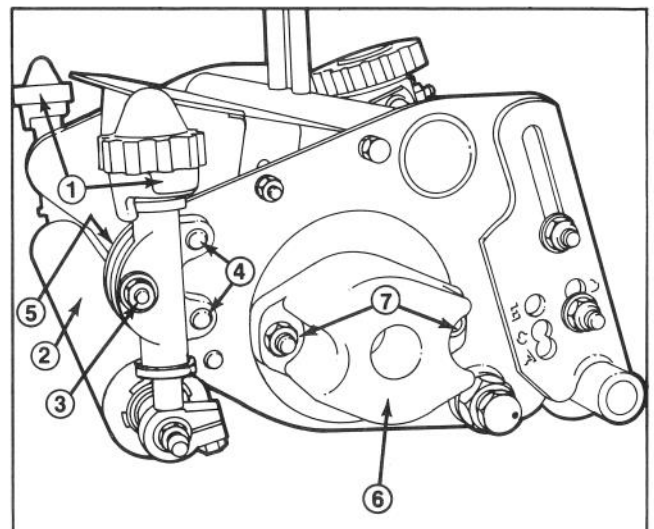
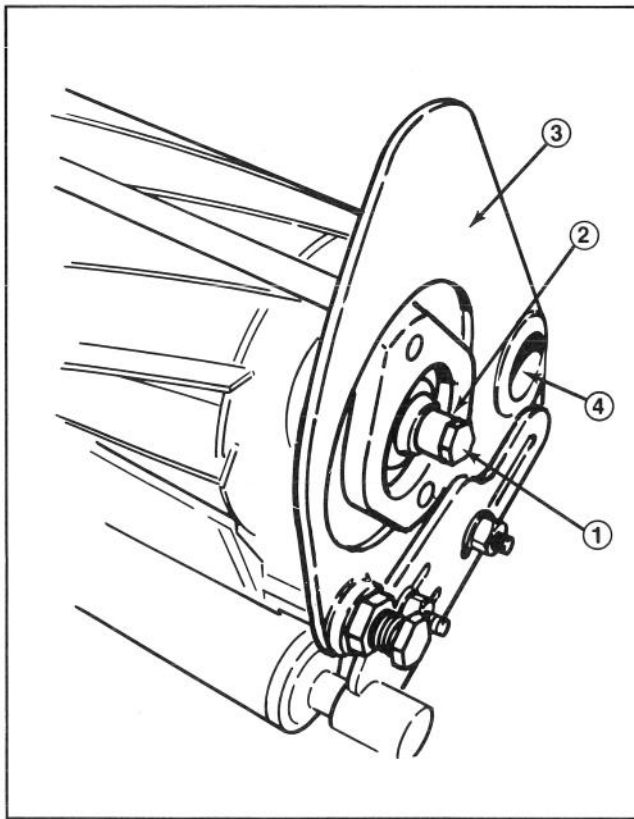
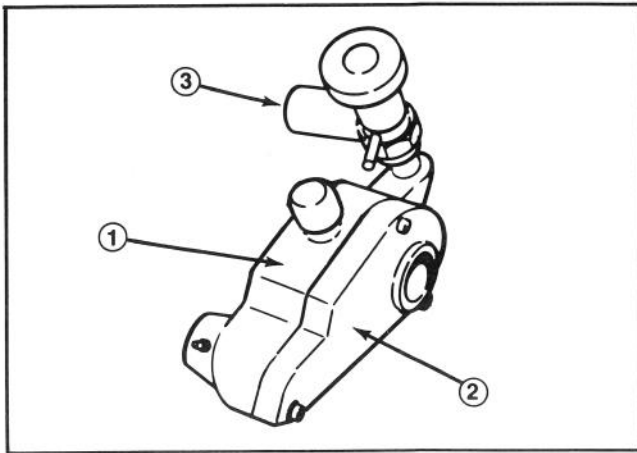

Figure 3
Figure 4
Figure 7
2. Remove the two front height of cut brackets and roller by removing the carriage bolts, flat head machine screws and cap screws securing the brackets to the cutting unit (Fig. 3). The roller is the only item that will be reused.
3. Remove the left side counter balance end cap by removing the two lock nuts (Fig. 3). Then remove the backlap screw (Fig. 4). These items will not be reused.
5. Measure the diameter of the reel shaft extension on the backlap (left) side (Fig. 4). The diameter must be .626" (+.000" -.005") over the length of the shaft extension so that the clutch adapter will fit over the extension.
- 3. Machine screws (4)
7. Install the left grooming reel housing (Fig. 7) assembly onto the left reel frame (Fig. 4) using the following procedure:
- A. Remove housing assembly cover (Fig. 7).
- B. Remove paint and flash from the inside of the reel frame tube (Fig. 4). Wrap shim stock (.004-.005 thick X 1.75 wide) around mounting block (Fig. 7) to compensate for looseness. Slide mounting block (Fig. 7) into reel frame tube. Fit should be snug without free play.